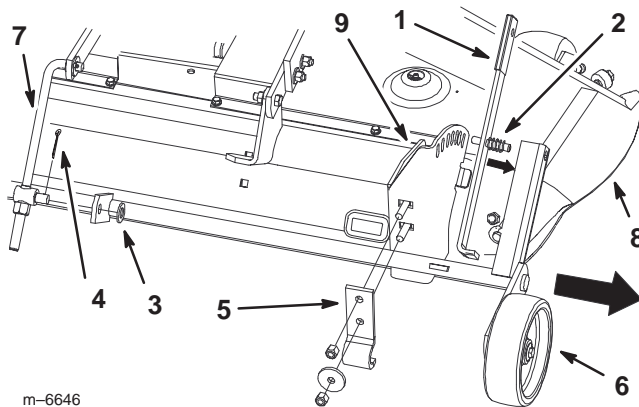

Figure 10
1. Remove the cotter pin and washer from the rear adjustable link (Fig. 10).
2. Remove the rear wheel bracket from the mower (Fig. 10).
3. Slide the rear wheel assembly to the right, towards the side discharge side (Fig. 10).
4. Remove the existing height-of-cut lever and spring from the mower (Fig. 10).
5. Install the new height-of-cut lever and existing spring to the wheel assembly (Fig. 10).
6. Slide the rear wheel assembly to the left, installing the height-of-cut lever into the height-of-cut bracket (Fig. 10).
7. Install the cotter pin and washer to the rear adjustable link (Fig. 10).
8. Install the rear wheel bracket to the mower (Fig. 10).